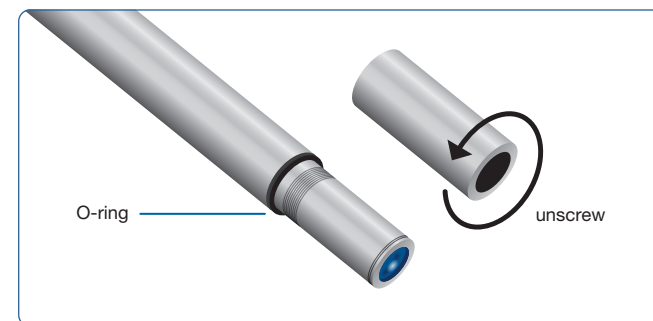

Figure 25: Replacing the ODO Cap of the VisiFerm DO Arc sensor
- 1) Unscrew the DO Cap from the shaft (see Figure 25).